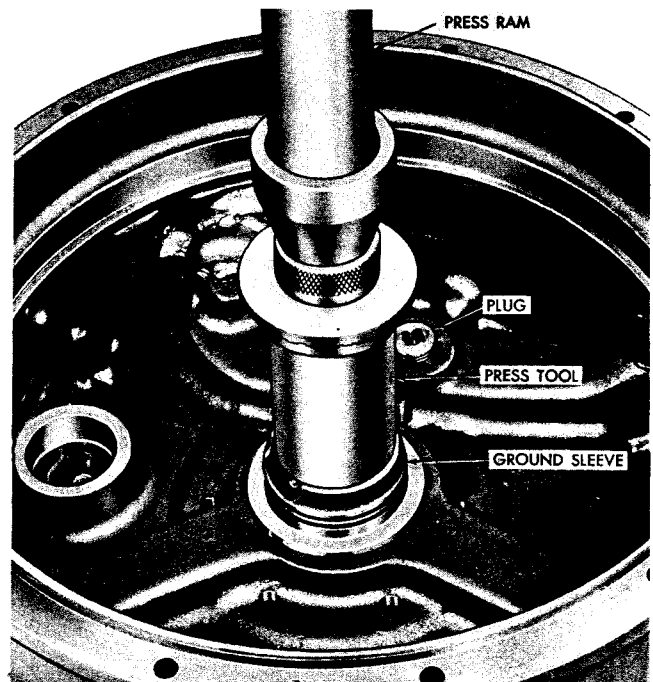

Fig. 6-14. Removing converter ground sleeve
(1) Remove two seal rings 19 (one on current models) from ground sleeve 20. If necessary for parts replacement, remove converter ground sleeve 20 from housing 34 by pressing the sleeve toward the rear of the housing (fig. 6-14). Be sure to press on the shoulder of the ground sleeve.